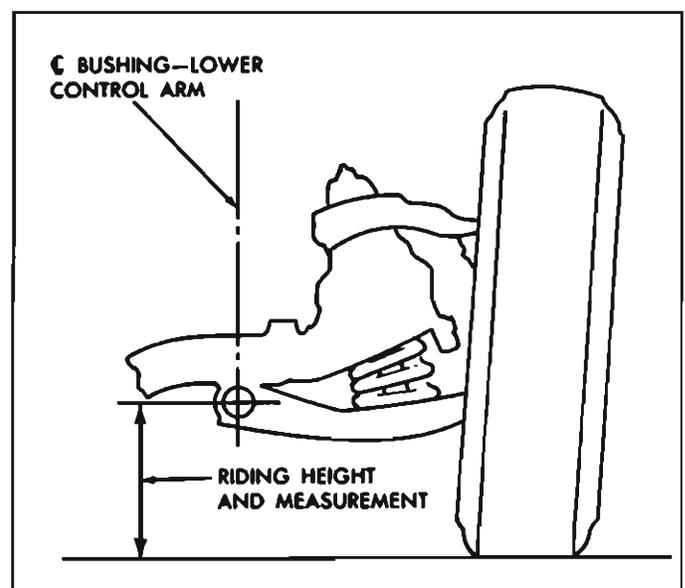

Fig. 3-2—Front Pivot Height
The front riding height (fig. 3-2) is $12'' \pm \frac{1}{2}''$ in
2. Front height may be checked by measuring the distance from the center of lower control arm pivot bolt to floor (fig. 3-2). This distance should be $12'' \pm \frac{1}{2}''$ with vehicle at curb weight. Measure both sides of vehicle in this manner; the resulting measurements should be within $\frac{1}{2}''$ of each other.